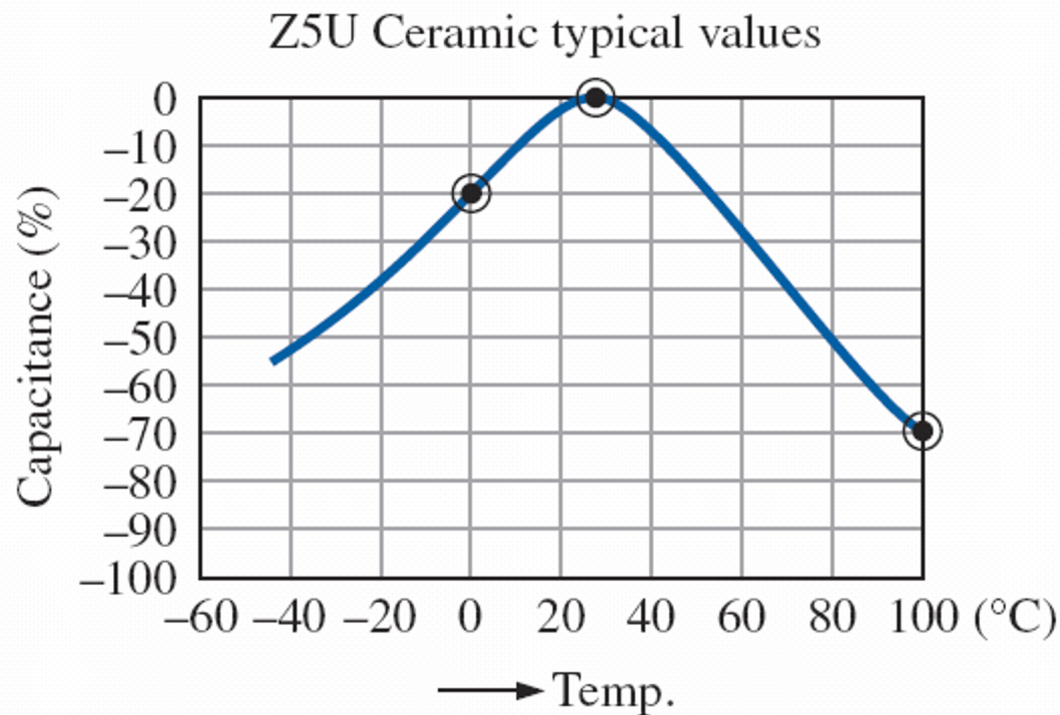

FIG. 10.22 *Variation of capacitor value with temperature.*
- If temperature is a concern for a particular application, the manufacturer will provide a temperature plot, such as shown in Fig. 10.22, or a ppm/°C (parts per million per degree Celsius) rating for the capacitor.